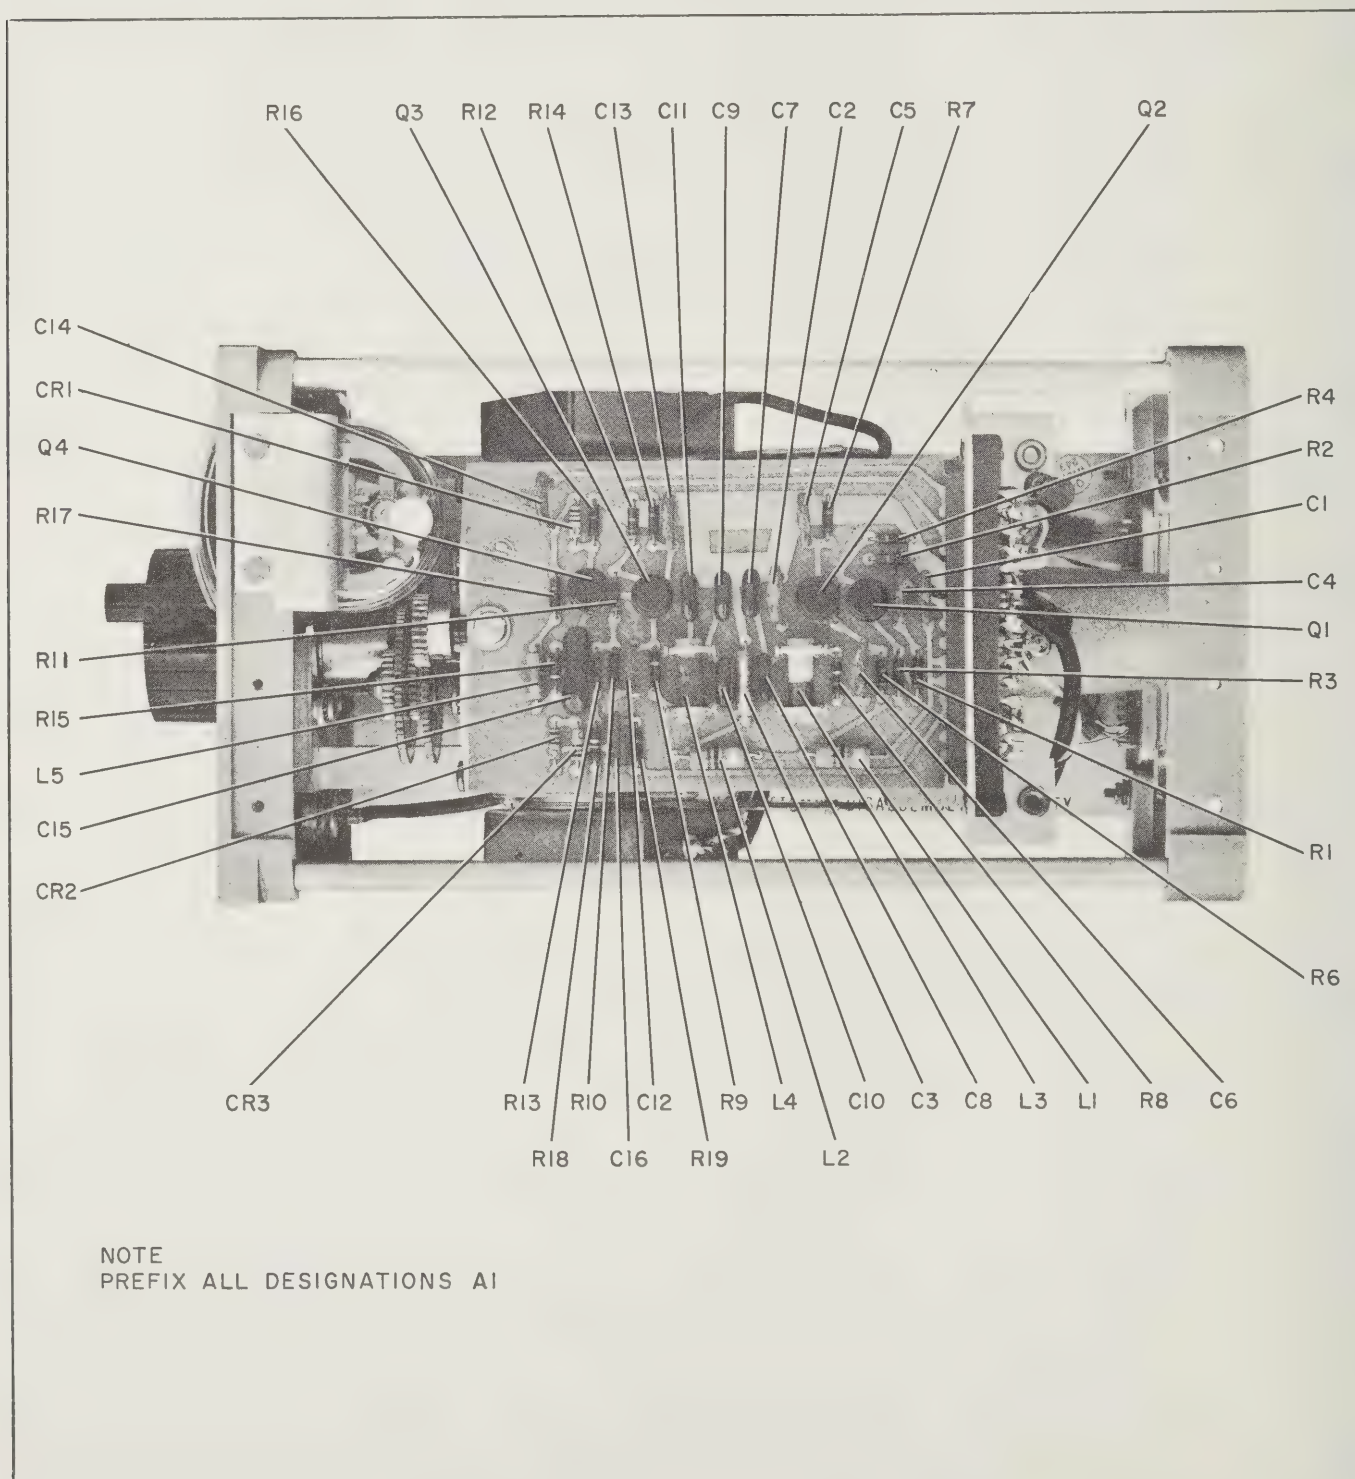

Figure IIA-4. Model 5253A, Top View
f. Using plastic tool, adjust variable inductor A1L4 (see Figure IIA-4) for minimum reading of RF Millivoltmeter.
h. Using plastic tool, adjust variable inductor A1L3 (see Figure IIA-4) for minimum reading of RF Millivoltmeter.